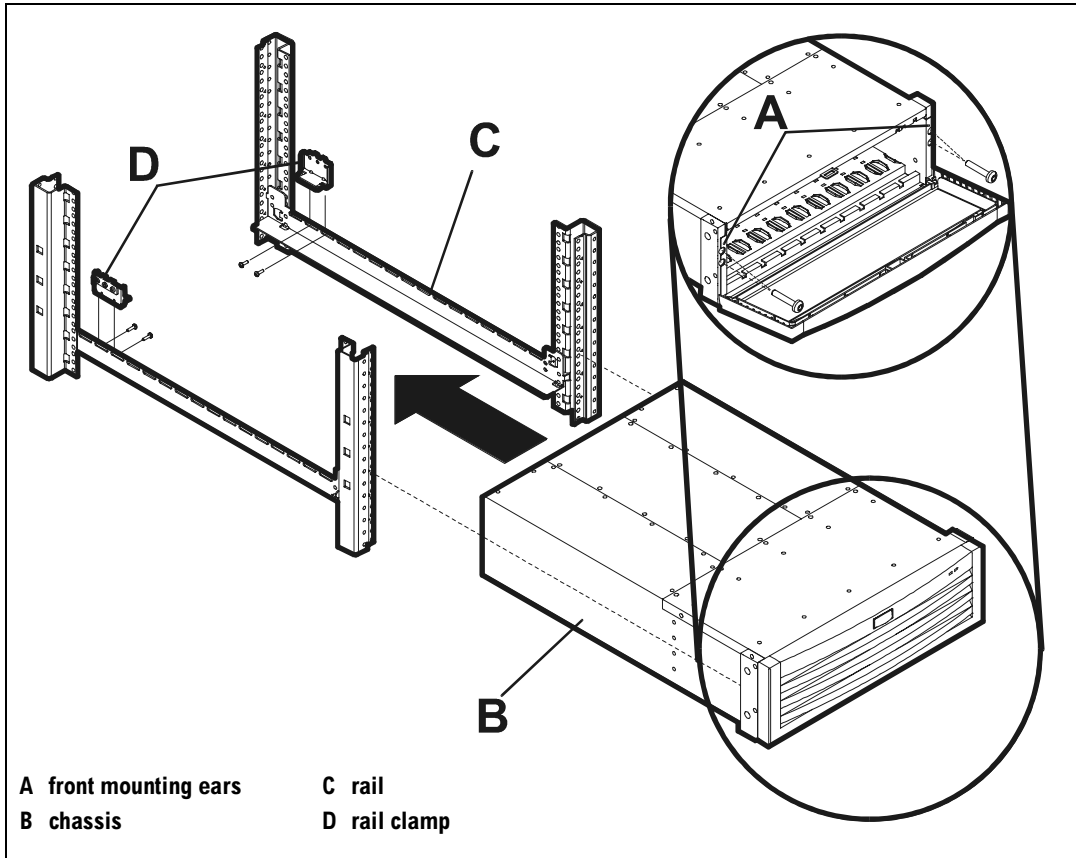

Figure 24 Mounting the Disk System (Rack System/E Shown)
2. With another person or using a lift device, carry the disk system to the front of the rack and slide the back end onto the rails (Figure 24). Push the disk system into the rack as far as it will go.
4. Ensure that one hole in each mounting ear (A in Figure 24) aligns with the sheet metal nuts previously installed on the rack front columns.
- b. If you are installing the disk system in an HP Rack System/E, set the clamp (E in Figure 24) inside the rail so that the holes in the clamp meet the slots in the rail.